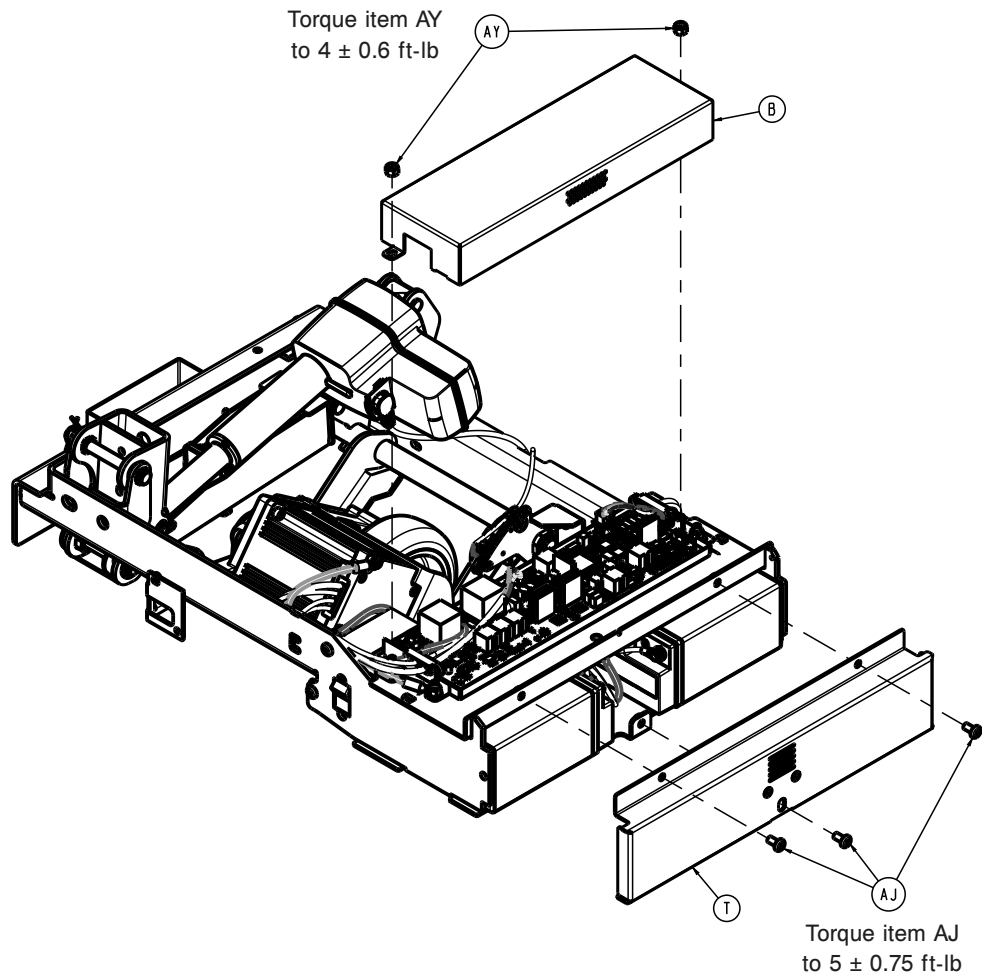

Figure 45 – Removing the battery cover
9. Using a T27 Torx driver, remove the three screws (AJ) that secure the battery box cover (T) to the base weldment (Figure 45). Save the screws and battery box cover.
- 15. Using a ratchet and 7/16” socket, remove the two nuts (AY) that secure the board cover (B) to the frame weldment (Figure 45). Save the nuts and board cover.
9. Using a ratchet and 7/16" socket, remove the two nuts (AY) that secure the board cover (B) to the frame weldment (Figure 45). Save the nuts and board cover.